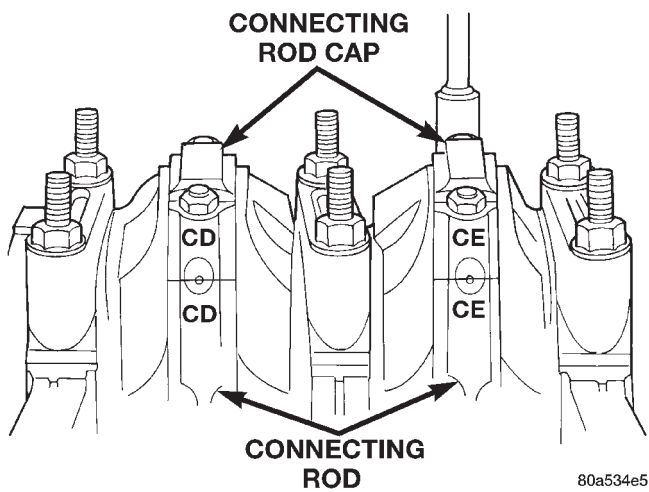

Fig. 54 Stamped Connecting Rods and Caps
- (10) Remove the connecting rod bearing caps and inserts. Mark the caps and rods with the cylinder bore location. The connecting rods and caps are stamped with a two letter combination (Fig. 54).